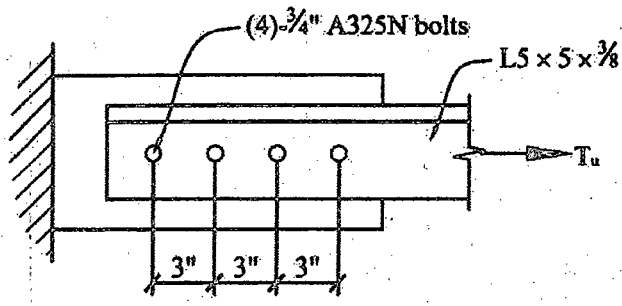
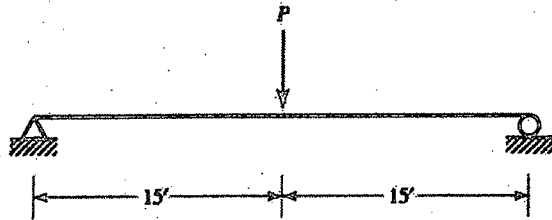
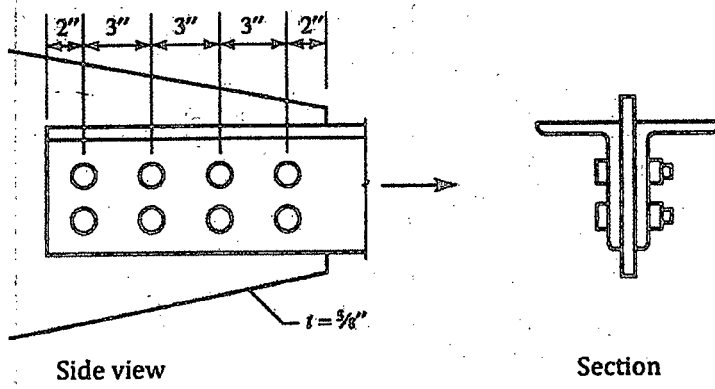

Fig. 6
Fig. 7
Fig. 8
- (c) For the bolted tension member shown in Fig. 6, determine the shear lag factor,  $U$ ; the net area,  $A_n$ ; and the effective area  $A_e$ . (10  $\frac{1}{3}$ )
7. (a) Briefly discuss, with neat sketches, the shear buckling of the web of an I-shaped section. (5)
- (b) The beam shown in Fig. 7 is a W14×61 of A992 steel ( $F_y = 50$  ksi,  $F_u = 65$  ksi) and has continuous lateral support. The load  $P$  is a service live load. What is the maximum permissible value of  $P$ ? Follow ASD principle. (8)
8. (a) Briefly discuss the advantages of modern structural bolts over rivets. (5)
- (b) Determine the elastic shear stress distribution on a W14×82 beam subjected to a service load shear force of 60 kips acting for major axis bending. Also compute the portion of the shear carried by the flange and that carried by the web. (8)
- (c) A double-angle shape, 2L6 × 6 ×  $\frac{5}{8}$ , is connected to a  $\frac{5}{8}$  inch gusset plate as shown in Fig. 8. The bolts are  $\frac{7}{8}$  inch diameter A325 bearing-type ( $F_y = 90$  ksi,  $F_u = 120$  ksi) having threads in shear plane. A572 Grade 50 steel ( $F_y = 50$  ksi,  $F_u = 65$  ksi) is used for the angle, and A36 steel ( $F_y = 36$  ksi,  $F_u = 50$  ksi) is used for the gusset plate. Determine the maximum total allowable service load that can be applied. Follow ASD principle and consider bolt limit states only. (10  $\frac{1}{3}$ )